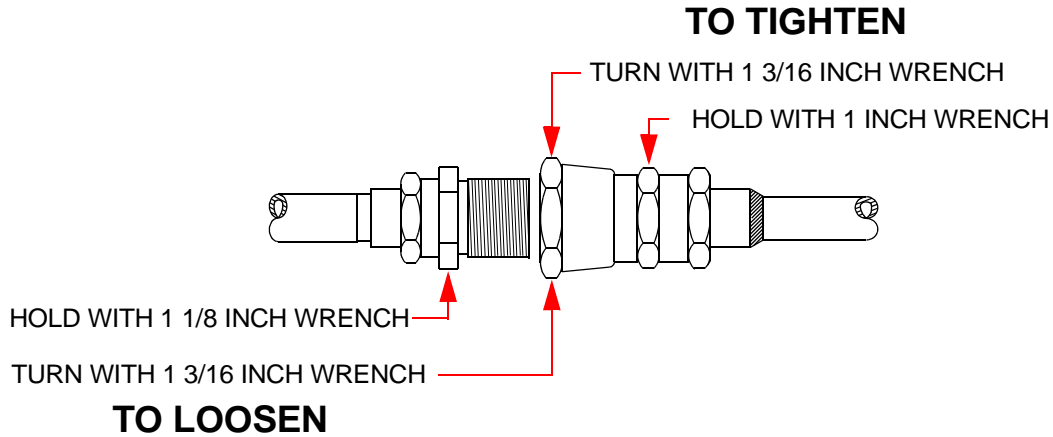

Figure 4-2: Connecting/Disconnecting Helium Flex Line Self Sealing Couplings
<p style="text-align: center;">CAUTION</p> <p style="text-align: center;">Equipment Damage</p> <p>To avoid damaging the connector, O-ring seals, or causing a helium circuit leak, connect and disconnect the helium flex lines from the On-Board IS 1000 Compressor using the following procedure and as shown in Figure 4-2 on page 4-6.</p>
2. Connect the Gas Return line to the GAS RETURN connector on the rear of the Compressor and then to the GAS RETURN connector on the On-Board IS Cryopump or helium manifold. Using two wrenches as shown in Figure 4-2 on page 4-6, tighten the connector.
3. Connect the Gas Supply line to the GAS SUPPLY connector on the rear of the Compressor and then to the GAS SUPPLY connector on the On-Board IS Cryopump or helium manifold. Using two wrenches as shown in Figure 4-2, tighten the connector.
- Using two wrenches as shown in Figure 4-2, disconnect the two self sealing coupling connectors quickly to minimize helium leakage.